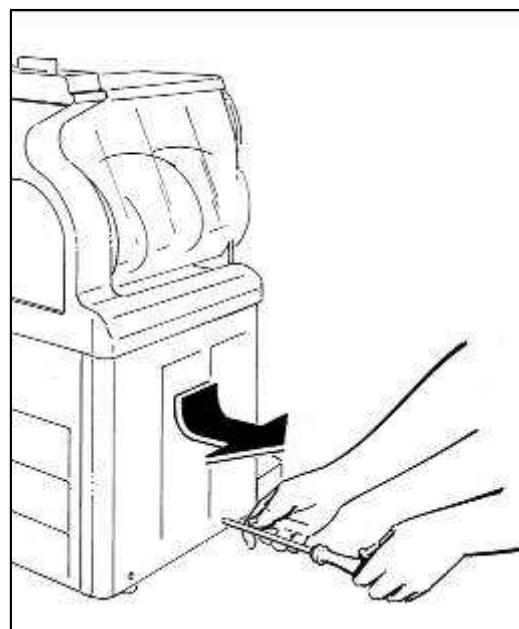

Рис. 42
- GT2 machine: remove the left side panel by unscrewing the two bolts fastening it (Рис.42);